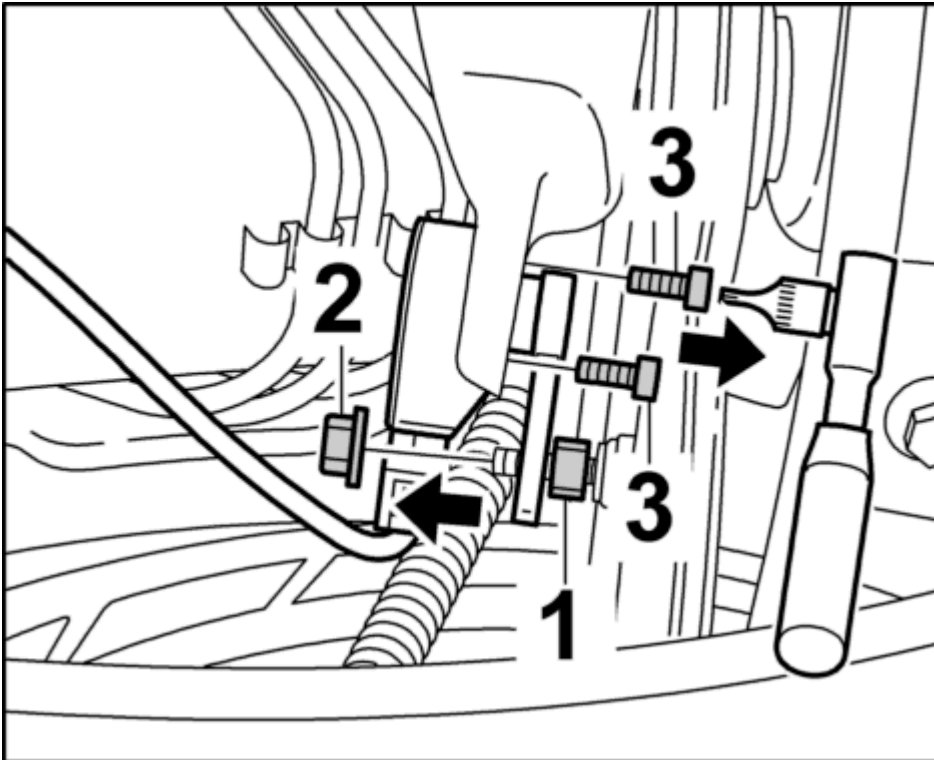

Fig. 13: Removing rear level sensor
1. Counter with an open-ended wrench on the two flats -1- and unscrew the fastening nuts. See **Fig. 13**.
2. Unscrew both fastening screws -2- . See **Fig. 13**.